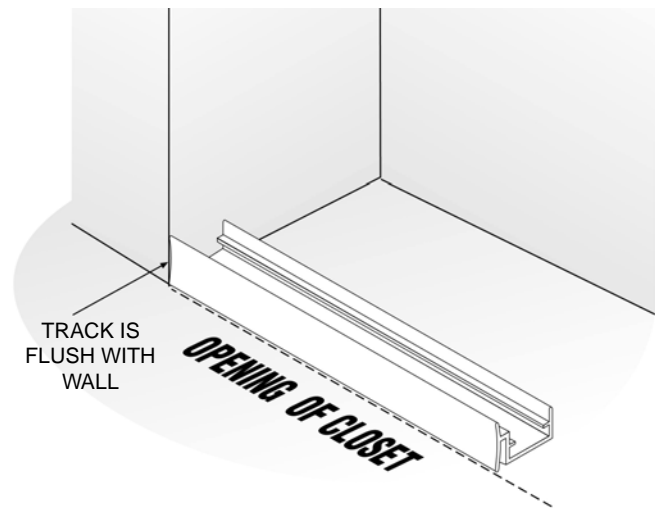

Figure 2A
- D. Place the Bottom Track (#3) at the bottom of the closet opening, flush with the edge of the closet opening and outer walls (See Figure 2A). Holding the Bottom Track (#3) in place, with your Pencil mark the position of the pre-drilled holes.